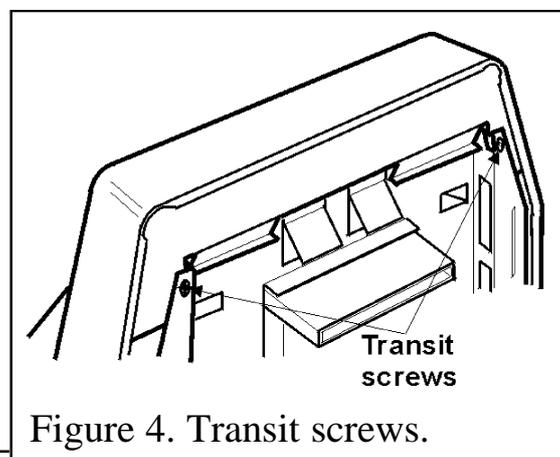

Figure 4. Transit screws.
5.3.2. Remove the two transit screws from the upper back panel extensions (See figure 4).